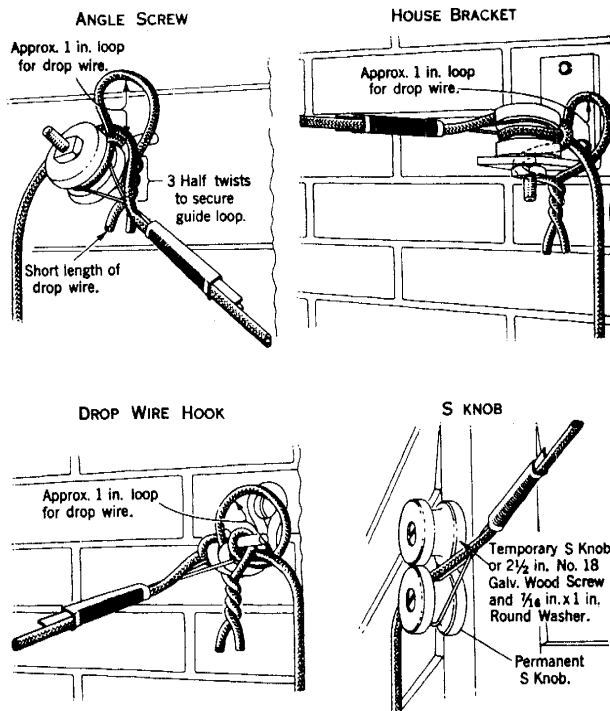

Fig. 1 — Temporary Guide Loop
(5) Man No. 1 and Man No. 2 both go to the opposite or building end of the drop wire span.
(6) Man No. 1 cuts the drop wire in the building run at a point where the end of the wire can be reached from the ground and then frees the wire from all intermediate attachments between the cut end of the wire and the first building attachment.
(7) Man No. 2 removes the C knob or the SC wire clip at the first building attachment and then places a temporary guide loop at the first building attachment, around the drop wire, such as shown in Fig. 1, to prevent the wire from becoming accidentally disengaged from the building attachment as it is being pulled over the power circuits.